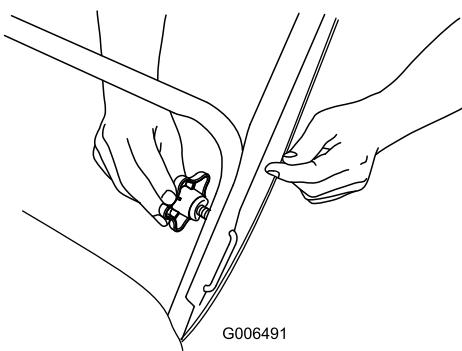

**Figure 5**
**Important:** Ensure that you do not pinch or kink the control cable or the Quick Shoot™ cables (Figure 5).